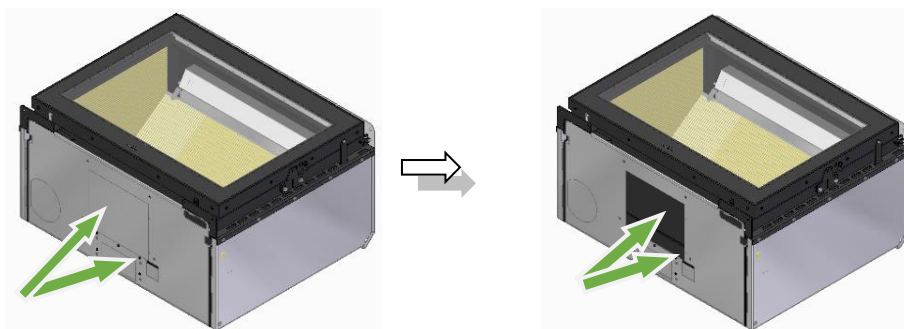

Figure 48 – Ventilation Kit Removal
a. On these models of equipment, the ventilation kit is placed underneath the equipment. To attach the optional ventilation kit, you must first break the micro-joints on the bottom with a hammer, in order to attach the fan and the ventilation kit accessories, see Figure 48.